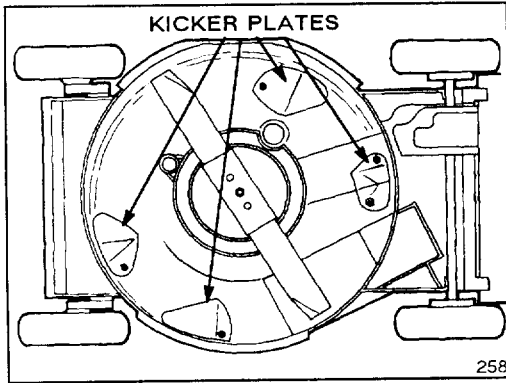

Figure 33
Keep underside of mower housing clean. Be especially careful to keep kickers on underside of mower housing free of debris (Fig. 33).
2. Tip mower on its right side (Fig. 33). Avoid rotating blade because starting problems may result.